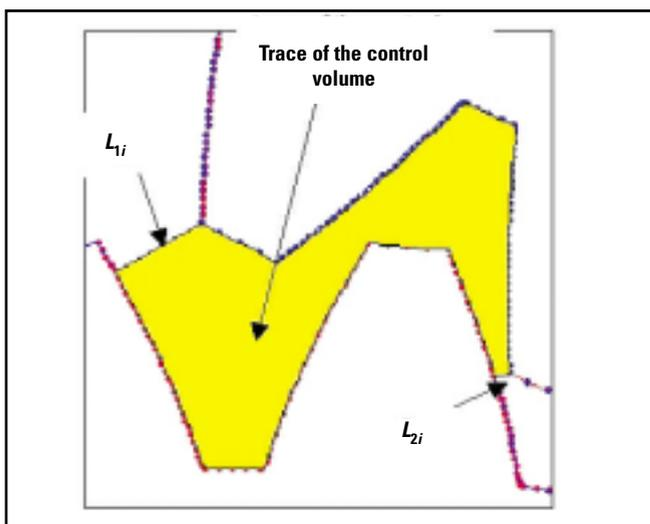

Figure 1—Definition of the control volume and exit flow areas.
The control volume  $V$ , i.e., the inter-tooth volume, varies during rotation. It is bounded by the flanks of two adjacent pinion teeth, their bottomland and the surface of the meshing gear tooth (Figure 1). One-dimensional flow is assumed (Ref. 6) and the integral form of the continuity equation applied to the control volume  $V$  reads:
Connections between the different volumes are ensured by writing the conservation of mass flow at all interfaces between any pair of pockets. Equation (4) is a non-linear differential equation of major unknown  $P_i$ , pressure in pocket  $i$ .  $\frac{1}{V_i} \frac{dV_i}{dt}$  as well as the exit surfaces  $S_{Ai-1}$ ,  $S_{Ai+1}$ ,  $S_{Ri}$  depend on the relative position of the meshing gears and pinion teeth and have to be evaluated step-by-step in time. The involute profiles of the teeth of the pinion and the gear at one arbitrary initial position are discretized. The axial discharge area  $S_{Ai}$  is obtained by numerical integration, and clearances  $L_{1i}$ ,  $L_{2i}$  are set to be the minimum distance between the tip corners of gear teeth and the pinion profiles (Figure 1). The volume  $V_i$  and the flow areas associated with an elemental spur gear (or pocket) of width  $b$  are deduced by: